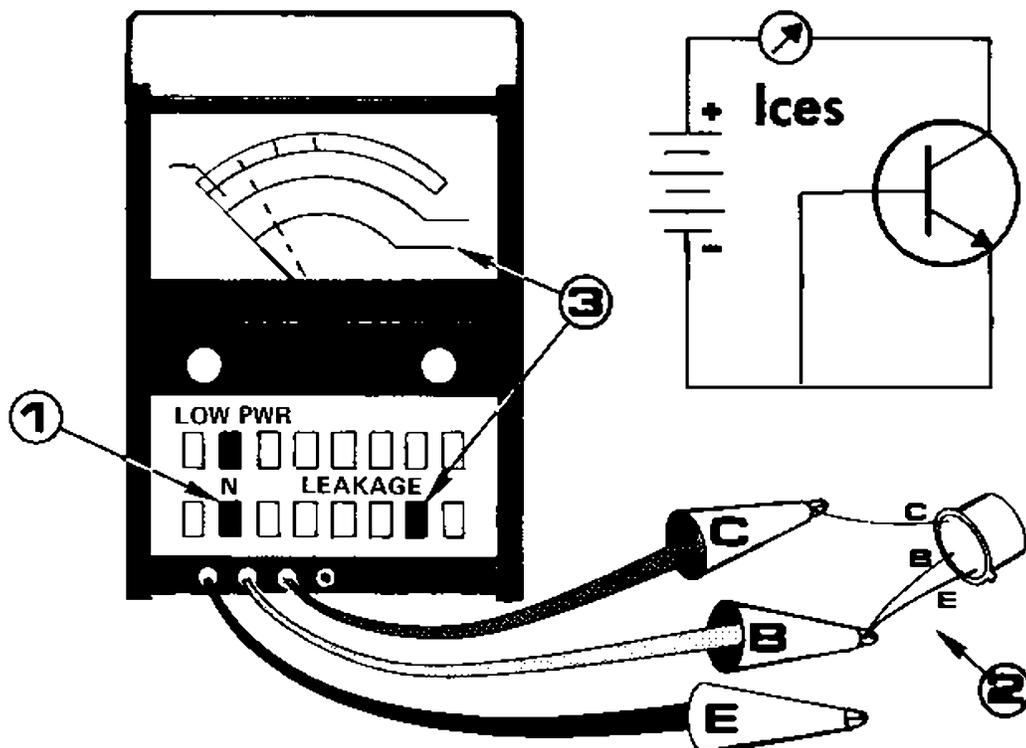

Fig. 10.  $I_{CES}$  Leakage Test
2. Connect the C lead of the TF166 to the collector of the transistor of the TF166, the B lead to the base and emitter and the transistor, and leave the E lead disconnected, as shown in Fig. 10.